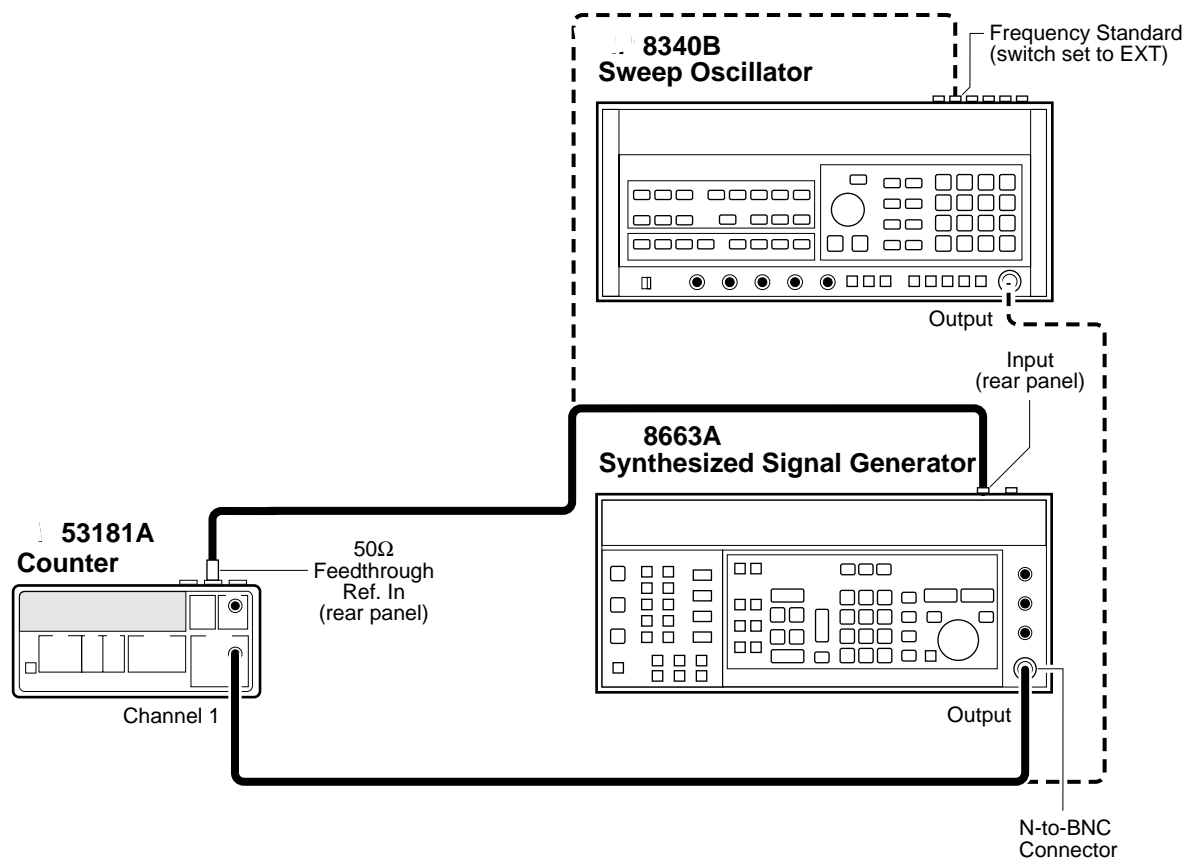

Figure 1-13. Channels 1 Frequency Accuracy Test Setup
- 1 Connect the equipment as shown in Figure 1-13 with the signal generator connected to Channel 1 of the Counter.